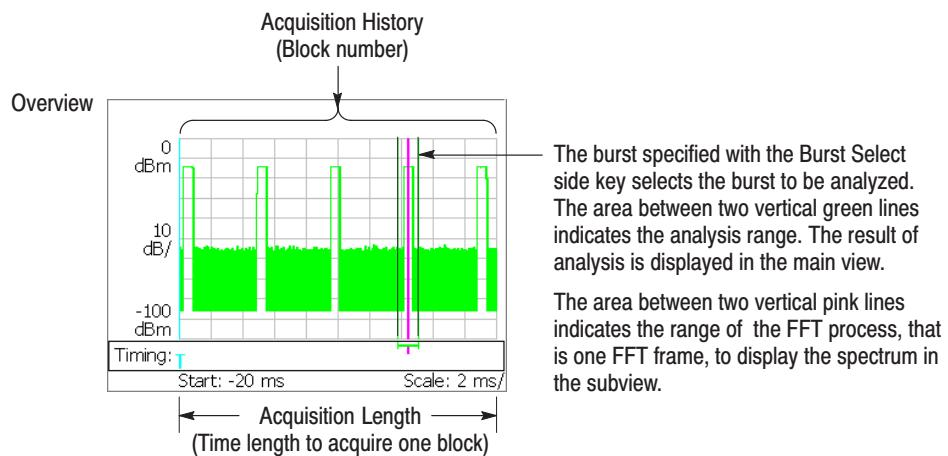

Figure 2-1: Setting analysis range on the overview
- e. Press the **TIMING** key on the front panel, and then press the **Acquisition Length** side key to set the number of slots for one acquisition block (see Figure 2-1). Default: 17 slots.